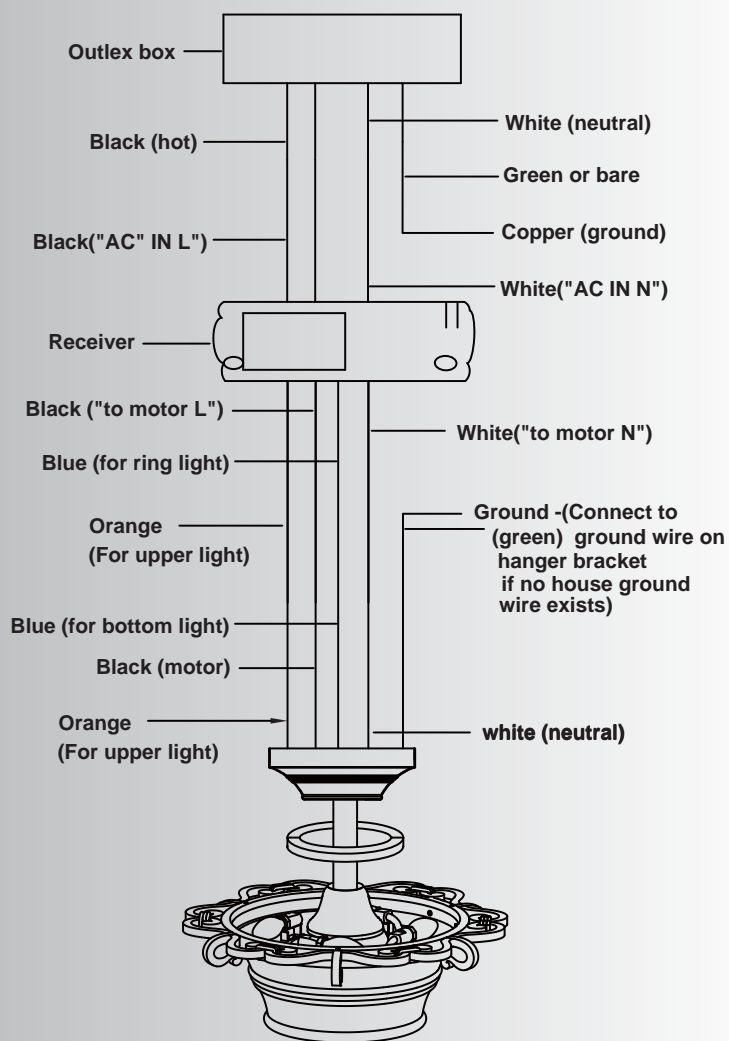

Fig. 14
Step 2. Motor to Receiver Electrical Connections: Connect the black wire from the fan to black wire marked "TO MOTOR L" from the receiver. Connect the white wire from the fan to the white wire marked "TO MOTOR N" from the receiver. Connect the blue wire from the fan to the blue wire marked "For Bottom Light" from the receiver. Connect the orange wire from the fan to the orange wire marked "FOR UPPER LIGHT" from the receiver. Secure all the wire connections with the plastic wire nuts provided. (Fig. 14 on next page)
Connect the white (neutral) wire from the ceiling to the white wire marked "AC in N" from the Receiver. Secure the wire connections with the plastic wire nuts provided. (Fig. 14)
Step 4. If your outlet box has a ground wire (green or bare copper) connect it to the fan ground wires; otherwise connect the hanging bracket ground wire to the mounting bracket. Secure the wire connection with a plastic nut provided. After connecting the wires, spread them apart so that the green and white wires are on one side of the outlet box and black and blue wires are on the other side. Carefully tuck the wire connections up into the outlet box. (Fig. 14)